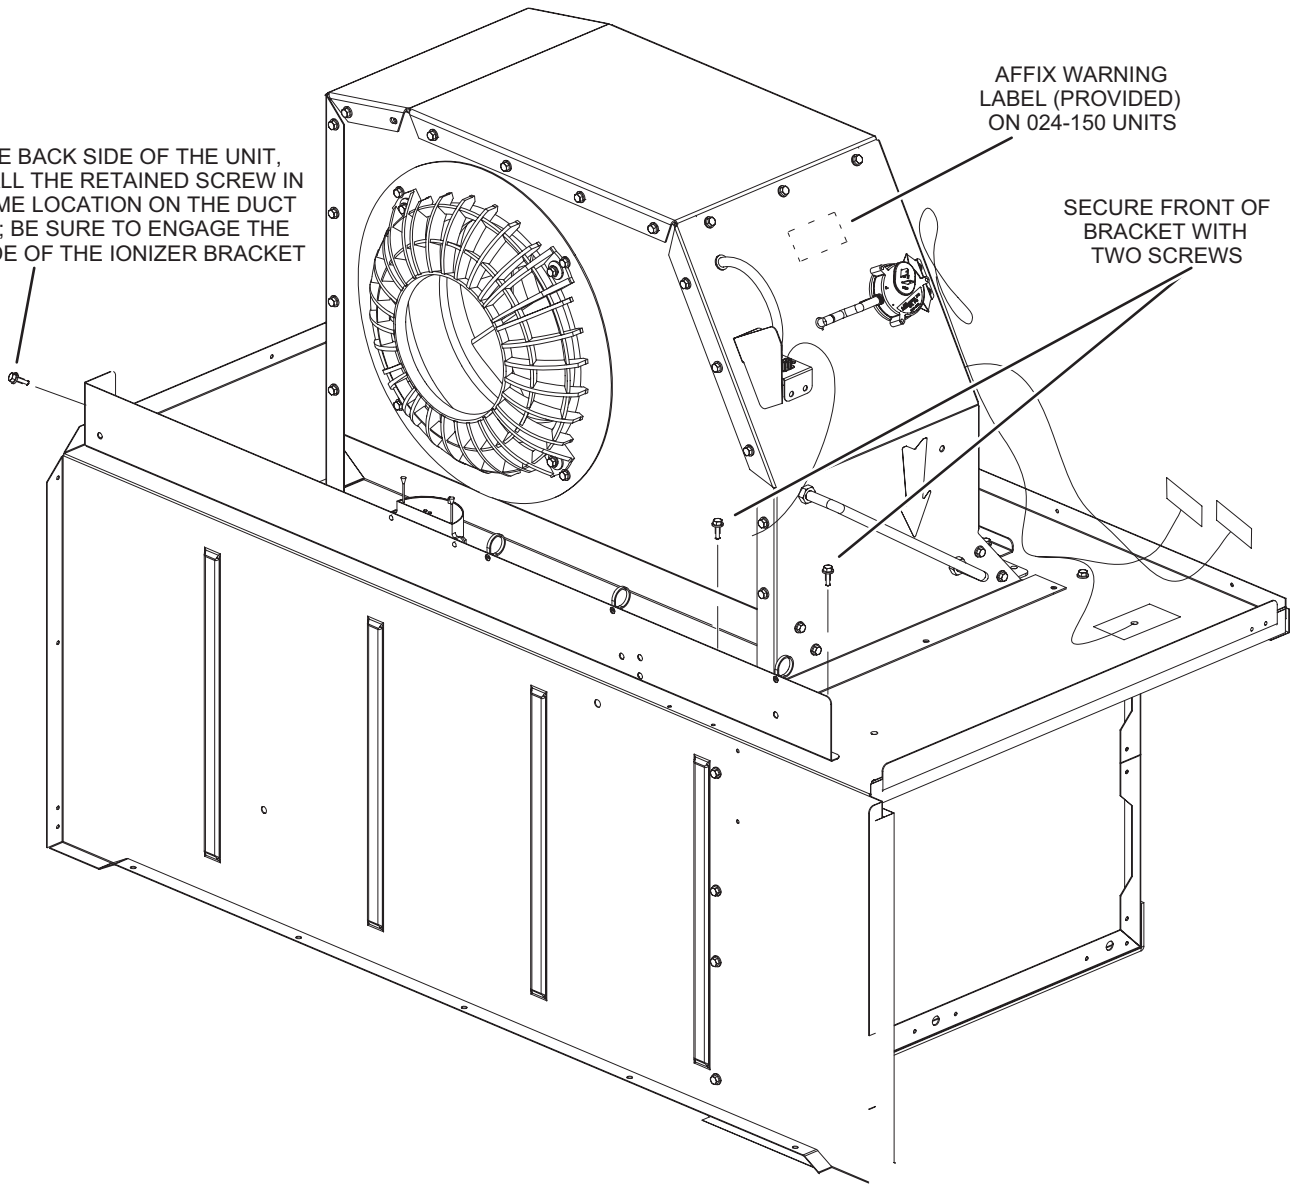
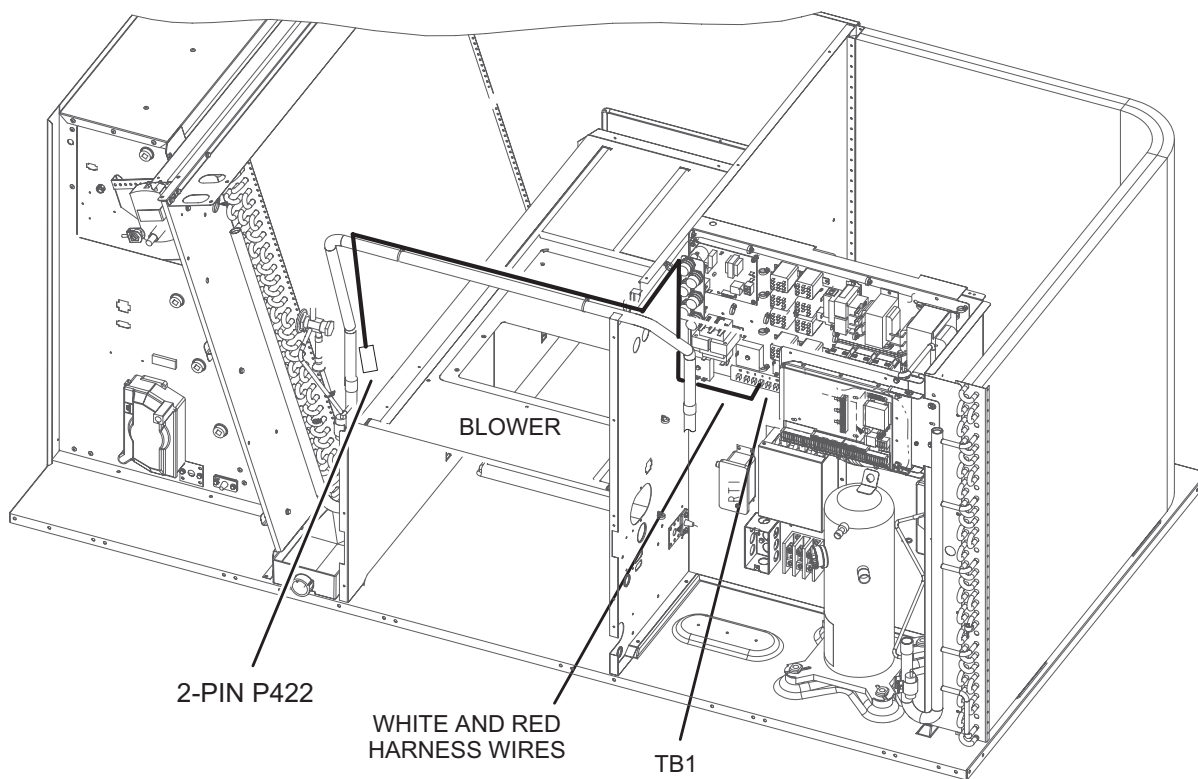
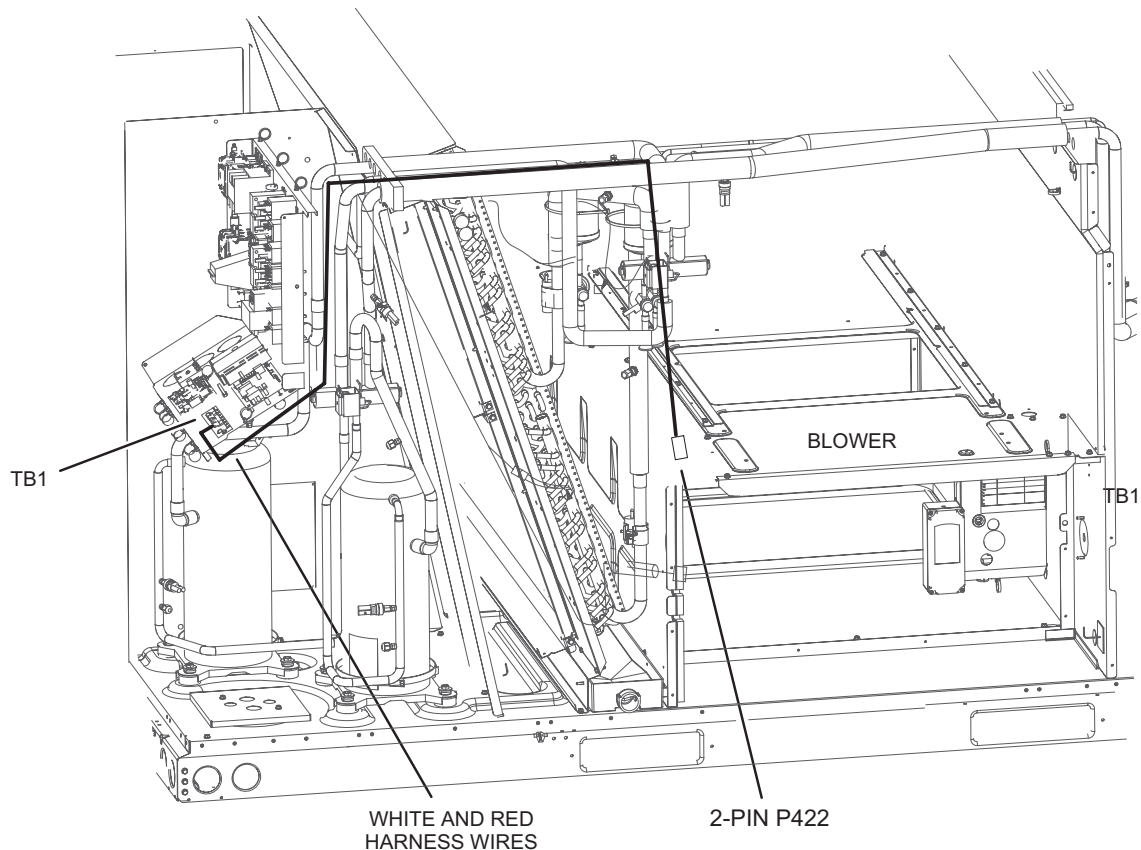
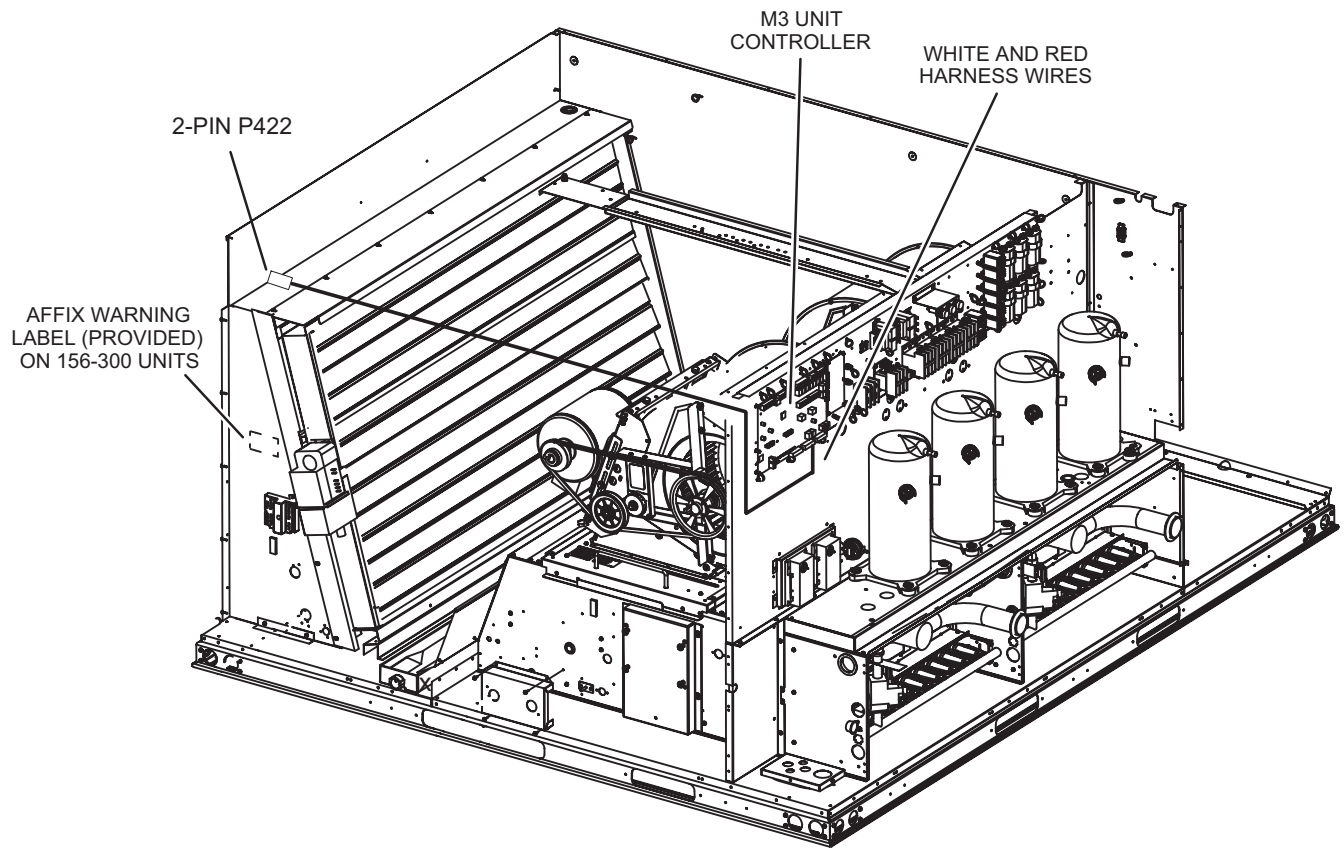

FIGURE 2
FIGURE 9
FIGURE 10
FIGURE 11
Affix warning label, provided in kit, in location shown in FIGURE 2 for 024-152 units and FIGURE 11 for 156-300 units.
- 2 - Install ionizer assembly on the blower deck to the left of the blower housing; secure with two provided screws. See FIGURE 2.
- 3 - On the back side of the unit, reinstall the retained screw engaging the back side of the ionizer bracket. See FIGURE 2.
- 2 - Route the cut wire ends to the control area and the 2-pin plug to the filter or blower section. See FIGURE 9, FIGURE 10, or FIGURE 11. Secure with provided wire ties.